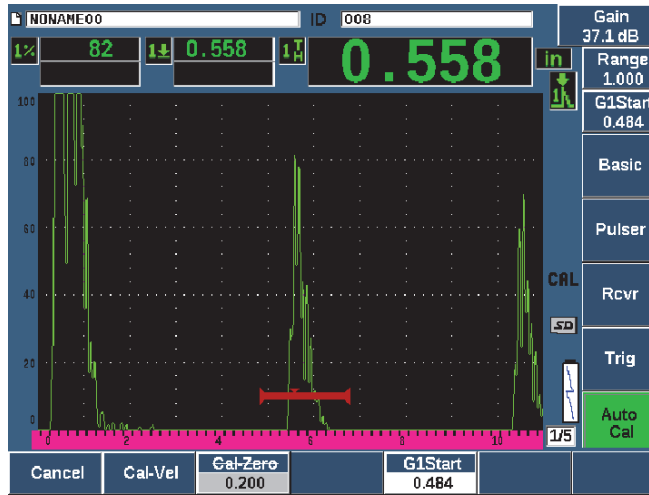

Figure 3-15 The gate 1 start
11. Bring the indication to 80 % full screen height using the 2ND F, (AUTO XX%) keys (see Figure 3-15 on page 77).